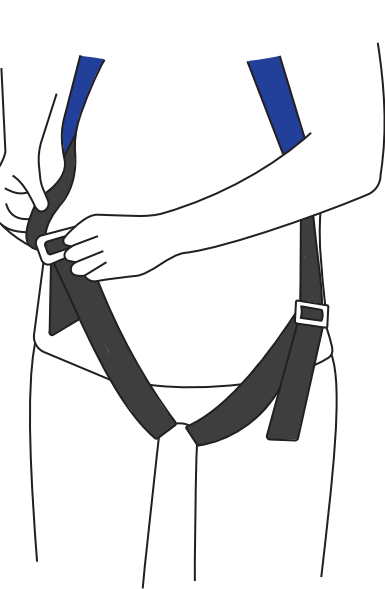

Fig 5
5. Tighten the shoulder and leg straps so that the fit is comfortable. (Fig 5)